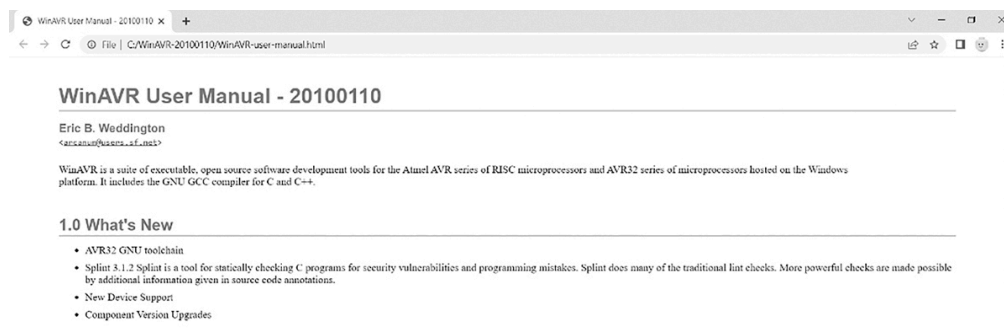

Figure 1-14: The WinAVR user manual page
8. You should now be presented with the WinAVR user manual page, as shown in Figure 1-14.